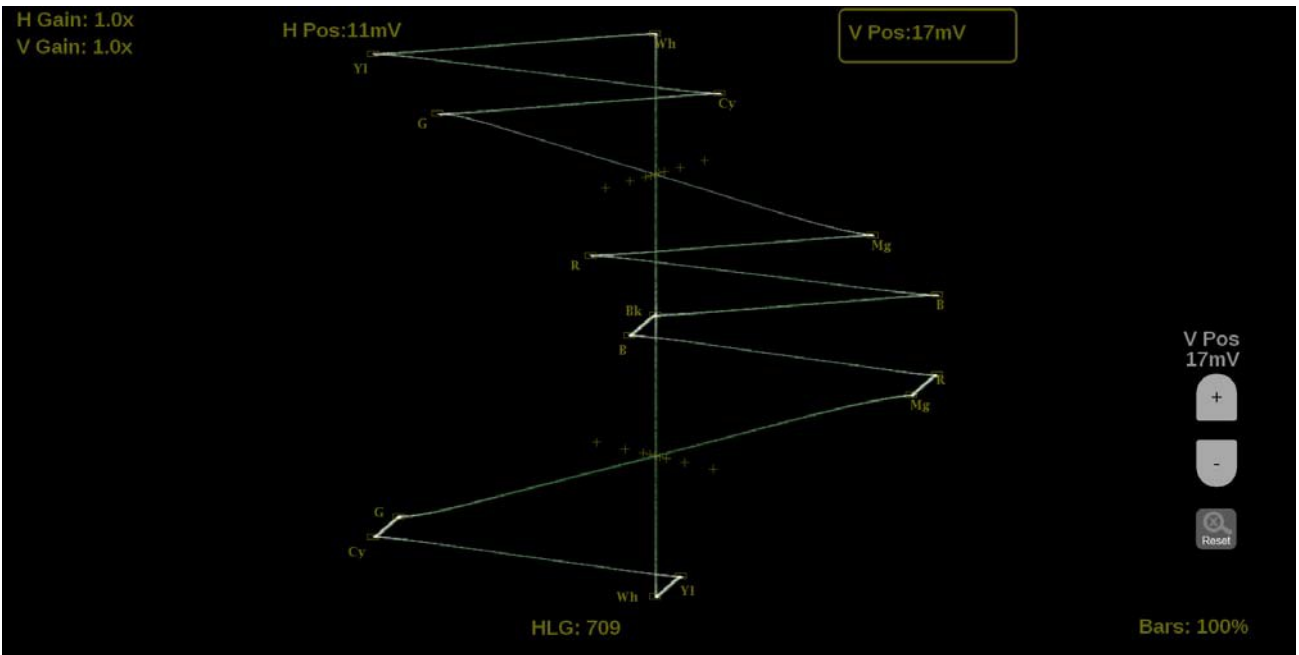

Figure 219: Lightning on-screen tools – vertical position
2. Select the **V Pos** button to allow adjustment of the vertical trace. (See Figure 219.)